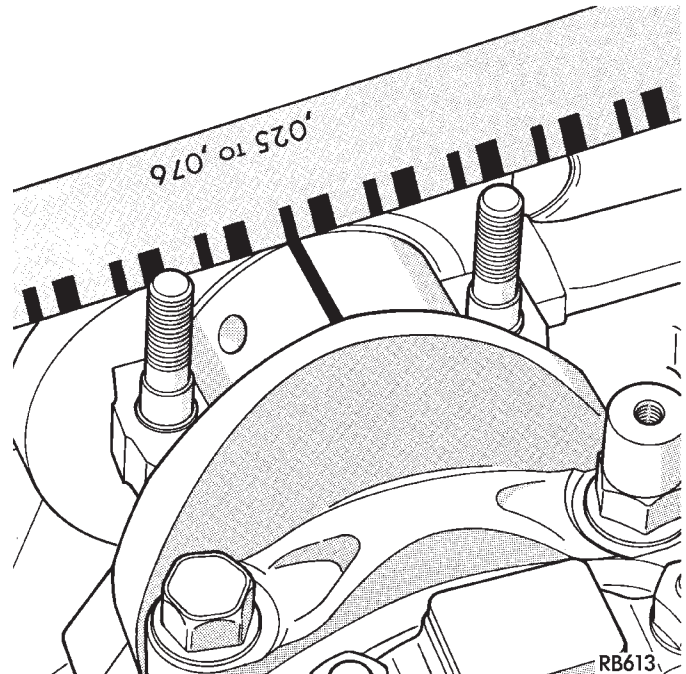

Fig. 16 Checking Connecting Rod Bearing Clearance—Typical
(1) Follow procedure specified in the Standard Service Procedure Section for Measuring Main Bearing Clearance and Connecting Rod Bearing Clearance (Fig. 16).